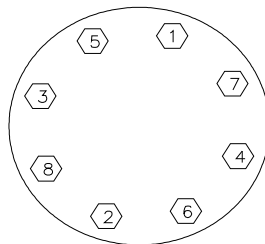

Fig 3.5: Initial Centering & Flanging of Valve
- 5.3 Center valve, span body with bolts, but do not tighten. Slowly open disc to ensure that it clears adjacent pipe ID and leave at full open position. Tighten bolts in a criss cross pattern refer fig 3.5.
Place the valve between the flanges, center it and then span the valve body with all flange bolts, but do not tighten the bolts. Carefully open the disc to the full open position, making sure the disc does not hit the adjacent pipe I.D. Now systematically remove jack bolts or other flange spreaders, and hand-tighten the flange bolts as shown in fig.3.5 Very slowly close the valve disc to ensure disc edge clearance from adjacent pipe flange I.D. Now open the disc to full open and tighten all flanges bolts as per specification as shown in fig. Finally, repeat a full close to full open rotation of the disc to ensure proper clearance.